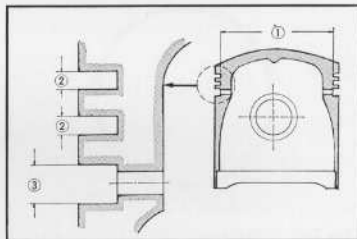

Fig. 3.54 Piston ring groove dimensions
- ① Piston
② Piston ring
③ Thickness gauge
6. Piston ring groove. (Fig. 3.54)